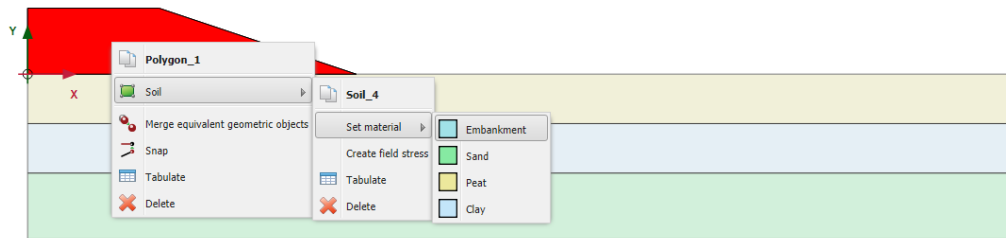

Figure 108: Assignment of a material dataset to a soil cluster in the drawing area
3. Select and right click the created polygon and assign the **Embankment** data set to the soil polygon as shown in Figure 108 (on page 130).